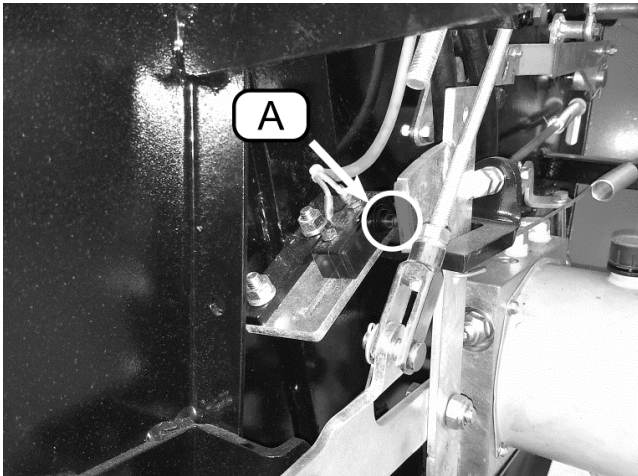

Figure 9 Right side of baler
The density sensor (Figure 9, A) can be positioned closer or further from the trigger (B) to vary bale density. See Section 4.1.4 for details.